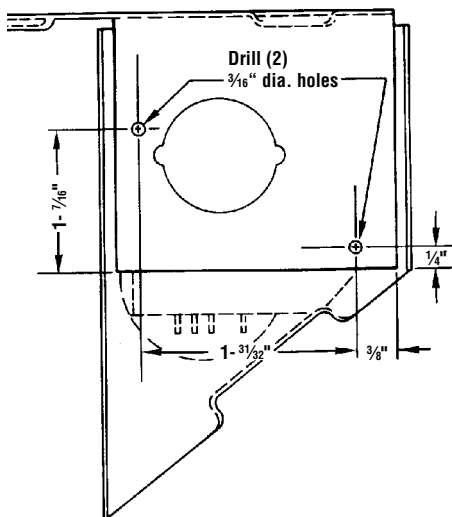

Figure 15
When installing in 1962 models with large, box-type cover of this style, see Figure 15. Also, note that the replacement does not have a dummy terminal L and you must use Part No. 75614 line connector to connect these two (2) leads. See Figure 15.